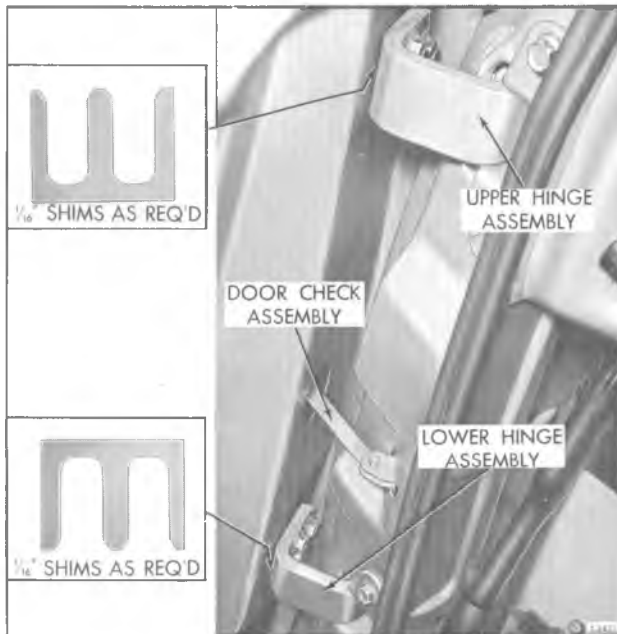

Figure 5—Cab Door Hinges and Check Link
REMOVAL (Fig. 5)
## INSTALLATION (Fig. 5)
1. Position door to hinge straps and install attaching cap screws loosely. Insert shims (if used) between hinge and door. Note direction of slots in upper and lower hinge shims as illustrated in figure 5.
The fore and aft adjustment of door is provided by the removal or installation of shims inserted between door and hinge strap (fig. 5). At only one hinge at a time, loosen three cap screws
Horizontal slotted cap screw holes in door half of hinge provide the "in" and "out" adjustment of door (fig. 5). Loosen three cap screws which attach each hinge strap to door. Reposition door on hinge straps so that door outer surface is flush with cowl surface.